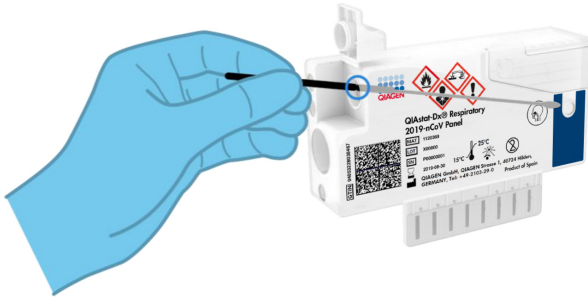

Figure 8. Inserting swab into the QIAstat-Dx Respiratory 2019-nCoV Panel Cartridge.
5. Insert the swab into the QIAstat-Dx Respiratory 2019-nCoV Panel Cartridge until the breakpoint is aligned with the access opening (i.e., the swab will go no further) (Figure 8).